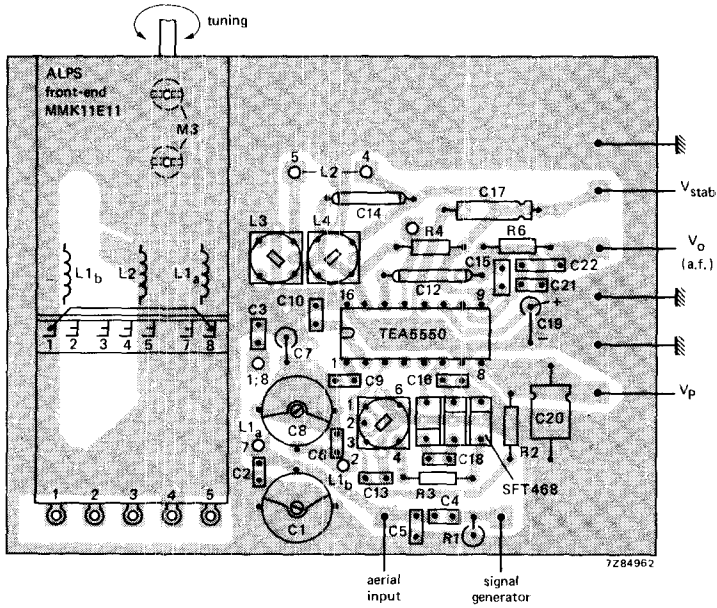

Fig. 8 Printed-circuit board component side, showing component layout. For circuit diagram see Fig. 7.
Fig. 7 Typical application circuit diagram for a double-tuned AM channel in car radio receivers using the TEA5550; S is AM/FM switch, for printed-circuit board see Figs 8 and 9.
- Coil data: L1a, L1b, L2 = tuning coils, ALPS unit MMK IIE II (for coil connections see Fig. 8)